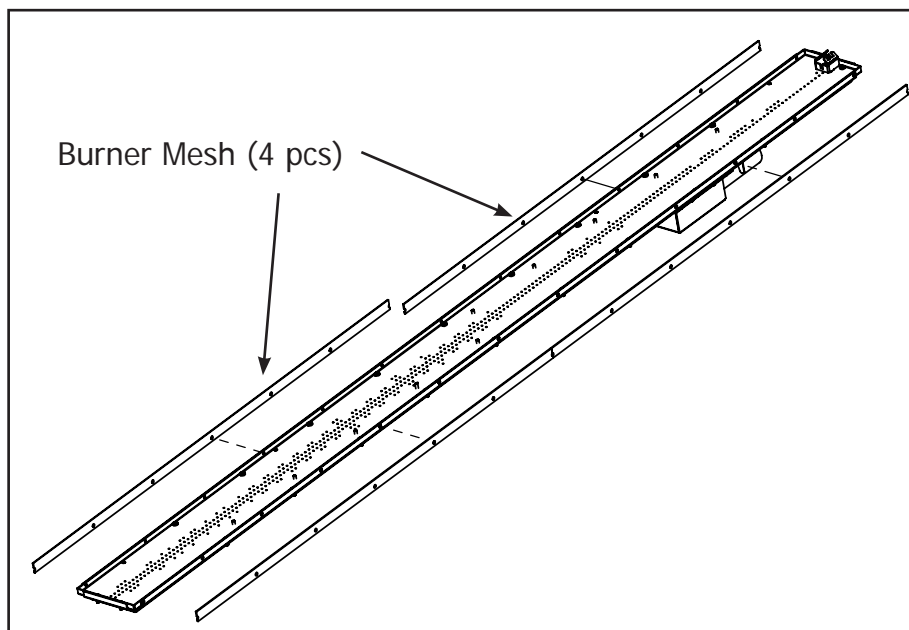

Figure 24: Burner Mesh Removal (LP ONLY)
8. **LP ONLY:** Using a T20 screwdriver remove the 4 pieces of mesh from the sides of the burner (figure 24). **The mesh retaining screws must be re-installed.**